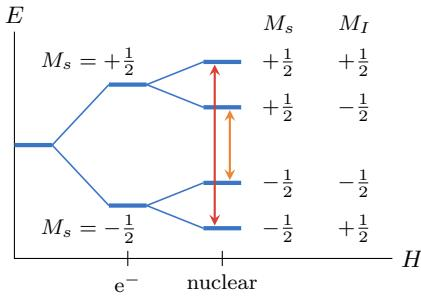

Figure 7.3: Hyperfine splitting.
- Thus, we have two allowed transitions in Figure 7.3.